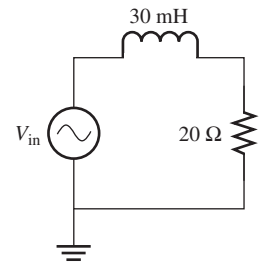

FIGURE 7.32 Elevator circuit.
- Figure 7.32 shows that due to the internal inductance of the motor, the system acts as a low-pass filter. Therefore, the break frequency for the transfer function is: